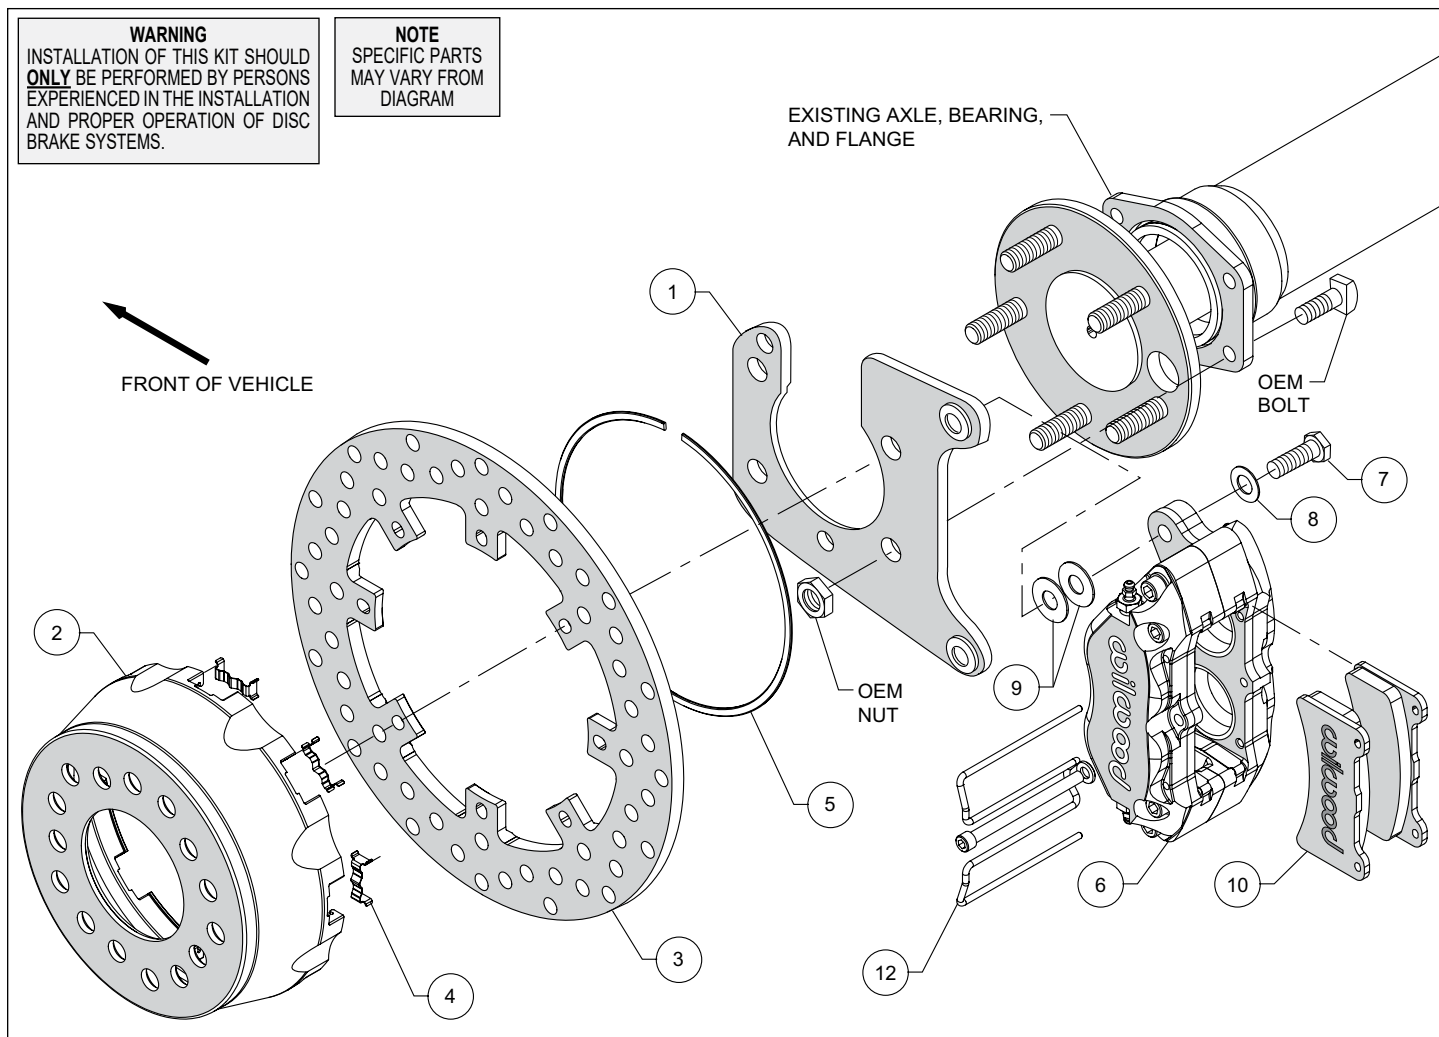
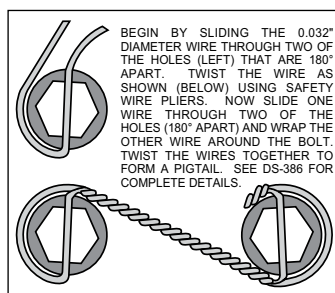
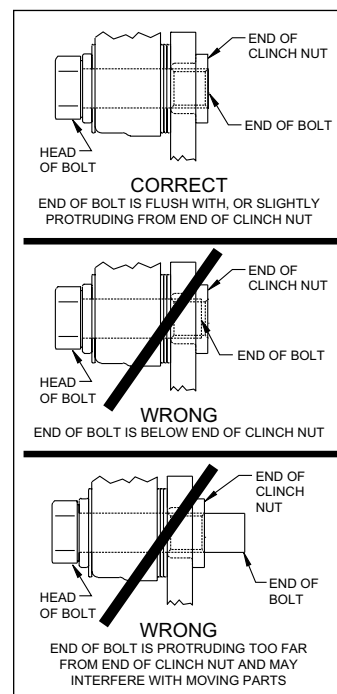

Figure 1. Typical Installation Configuration
Figure 4. Safety Wire Diagram
Figure 5. Clinch Nut Engagement Diagram
Assembly Instructions (numbers in parenthesis refer to the parts list and Figure 1 on the preceding pages): **CAUTION:** All mounting bolts must fully engage clinch nuts. Be sure to check that all bolts are either flush or protruding through flanged side of clinch nut after shimming, Figure 5.
- Install the caliper mounting bracket (1), with the slot for the axle pointing upward, to the housing flange using the OEM bolts and nuts, as shown in Figure 1 and Photo 1. Ensure that the heads of the clinch nuts are facing outboard, Photo 1. Apply red *Loctite*® 271 to the OEM bolt threads and torque to OEM specifications.
- Insert the dynamic mount wear clips (4) into the slots in the hat (2) making sure the tabs snap in place, Photo 2. Orient the rotor (3) as shown in Figure 1 and Photo 3, with the flush mount tab side facing the hat. Attach the rotor to the hat using snap ring (5) by pushing down on the rotor and installing the ring into the groove in the hat, as shown in Photo 4. Ensure that the ring is fully engaged in the groove.
•**NOTE:** Please reference the caution statement at the beginning of the assembly instructions. Mount caliper (6) onto the mounting bracket (1) using bolts (7) and washers (8), as shown in Figure 1. Initially place two .035" thick shims (9) on each bolt between the caliper and the bracket, Photo 5. Temporarily tighten the mounting bolts and view the rotor (3) through the top opening of the caliper. The rotor should be centered in the caliper, Photo 6. If not, adjust the caliper by adding or subtracting shims between the bracket and the caliper. Always use the same amount of shims on each of the two mounting bolts. **NOTE:** The end of each bolt must be flush with or slightly protruding from the head of the clinch nut. If necessary, place spare shims between washer and caliper mounting ear to achieve the proper clinch nut engagement, as shown in Figure 5. Once the caliper alignment and clinch nut engagement are correct, remove the bolts one at a time, apply red *Loctite*® 271 to the threads, and torque to 40 ft-lb. For an added measure of security, the bolts may be safety wired using standard 0.032 inch diameter stainless steel safety wire as shown in Figure 4. Please refer to Wilwood's data sheet DS-386 (available at www.wilwood.com/Pdf/DataSheets/ds386.pdf) for complete safety wire installation instructions.